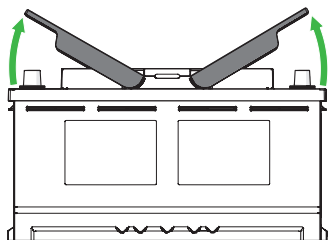

Figure 10. Lift the handles 30°.
- a) Lift the handles 30°. (Figure 10)